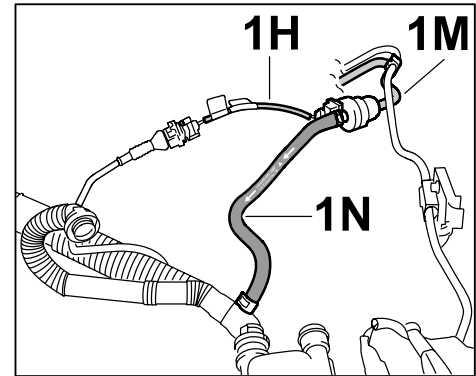

Figure 9
Connect the two new tank vent lines (⇒ 997.110.127.00; ⇒ Figure 9-**1M**-/ ⇒ 997.110.129.40; ⇒ Figure 9-**1N**-) together while observing the direction of flow and clip them in at the T-piece for the oil separator.
- 2.3.8 Connect electric line (⇒ 997.607.130.00; ⇒ Figure 9-**1H**-) as an extension to the tank vent valve connector.